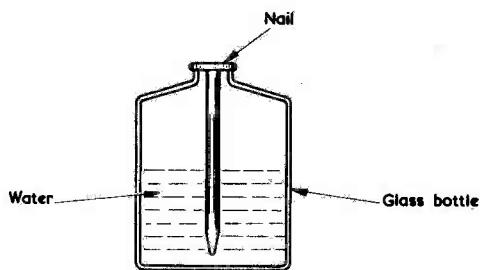

Fig. 5. An early device for "condensing" electricity
Into a bottle he placed a small amount of water and a nail, as in Fig. 5. Then he passed a charge in from an electrostatic generator. On touching the nail he obtained a shock and so he knew he had "filled" the bottle with electricity.
The two cells which make up the battery are fitted in a sleeve made of Fablon, the general mode of assembly being shown in Fig. 5. Take a piece of Fablon measuring 9 by 4½ in., and leave on all the backing paper except for a ¼ in. strip along one of the shorter edges. Roll the cells into this Fablon with the exposed ¼ in. strip going on last, so that it secures the resultant cylinder in shape. The cylinder should be loose enough for the cells to be easily removable. A small compression spring is required between the two cells, and this spring should have an internal diameter of ¼ in. and a length of ½ in. One end is opened out very slightly with a pair of pliers so that it fits firmly onto the positive stud of one of the cells. The cells are inserted in the Fablon cylinder as illustrated
**Fig. 5. The two cells are inserted in a sleeve made of Fablon. The negative battery connection is to the metal case of VR1 and the positive connection is to the aluminium contact plate**
in Fig. 5, and the resultant battery can then be put in the receiver with the positive end fitting into the partially drilled  $\frac{3}{16}$  in. hole in the aluminium contact plate and the negative end pressing against the metal cover of VR1. The spring between the two cells makes the fitting easy and ensures that good contact is made. Before the battery is inserted, however, the next and final step in construction has to be carried out.